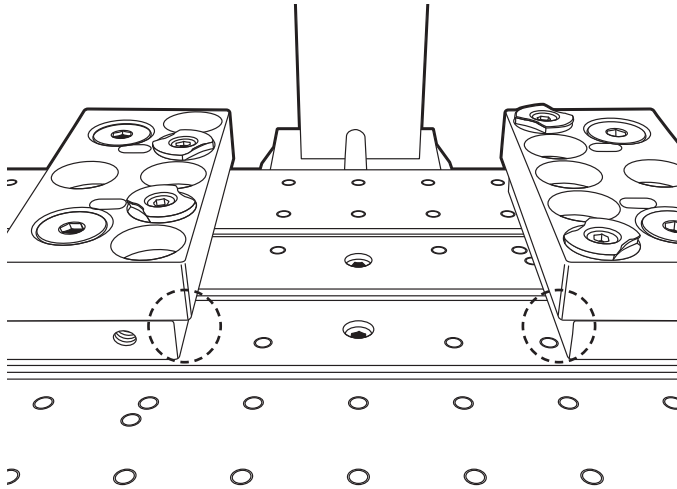

FIGURE 23—The dashed lines show the overlap of the top jaws and the bottom plates.
- Both top jaws will extend over the front of the bottom plates slightly (see Figure 23).